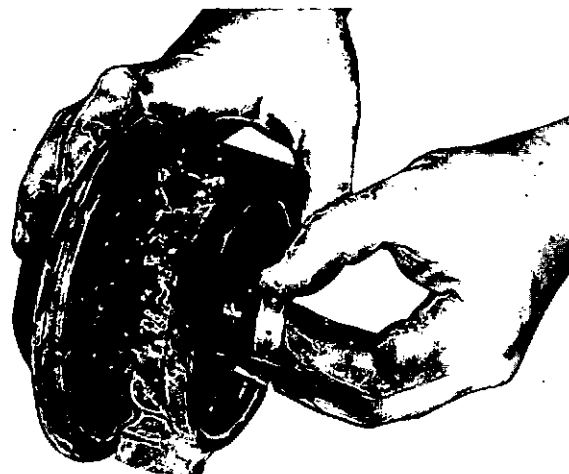

Fig. 5-14, (TA17). Removing the bearing and washer (compressor end)
13. Remove the bearing, bearing washer, and the snap ring from the compressor end of the center housing, Fig. 5-14.